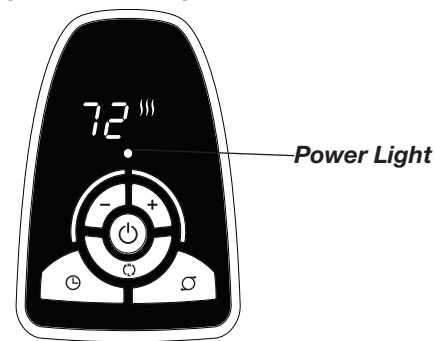

Figure 1
### OPERATION (Figures 1 through 3)
7. Upon turning the Heater on, the unit will be in HIGH heat (H) (1500 Watts) and will display the current room temperature. (Figure 1)